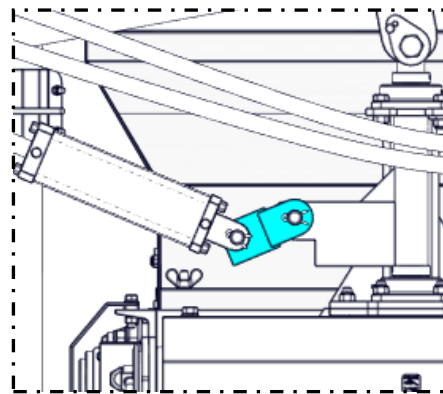

Figure 4.15
- D) The transfer auger is equipped with a free swing mechanism (Figure 4.15). This is used as a safety buffer to prevent damage to machine components unexpected forces on the lift cylinder due to over-extension on the lift cylinder.